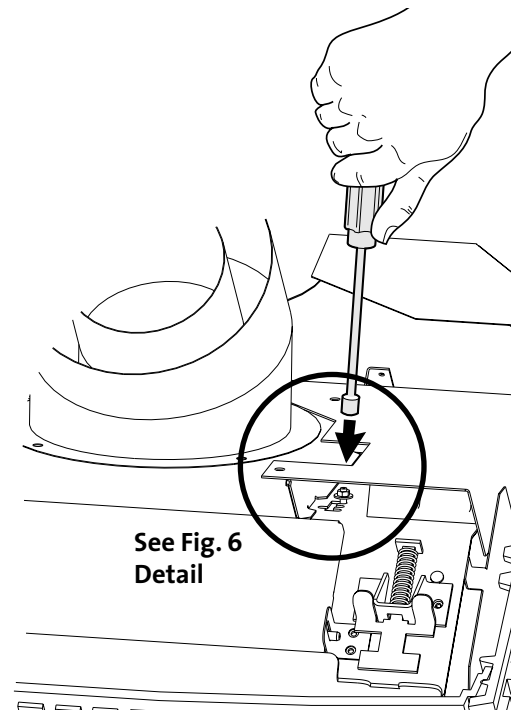

Figure 7. Use a nut driver to change the Exhaust Restrictor setting.
The Exhaust Restrictor is an adjustable shutter located at the top right side of the firebox. It is adjusted by moving a pivot pin into one of four positions. It is set in the FULLY OPEN (D) position at the factory. See Fig. 7. The four positions correlate to the termination zones (A,B,C,D) diagramed in figures 9-12. Consult these Vent Window diagrams on pages 10-11 to determine the setting you should use.
The circled letter designations in the vent diagram correspond to the Exhaust Restrictor Setting on the stove. First, determine which vent termination zone is appropriate for your installation and fuel type, then adjust the restrictor to the corresponding position as shown in figure 7, page 9.
The circled letter designations in the vent diagram correspond to the Exhaust Restrictor Setting on the stove. First, determine which vent termination zone is appropriate for your installation and fuel type, then adjust the stove restrictor plate to the corresponding position as shown in Figure 7, page 9.